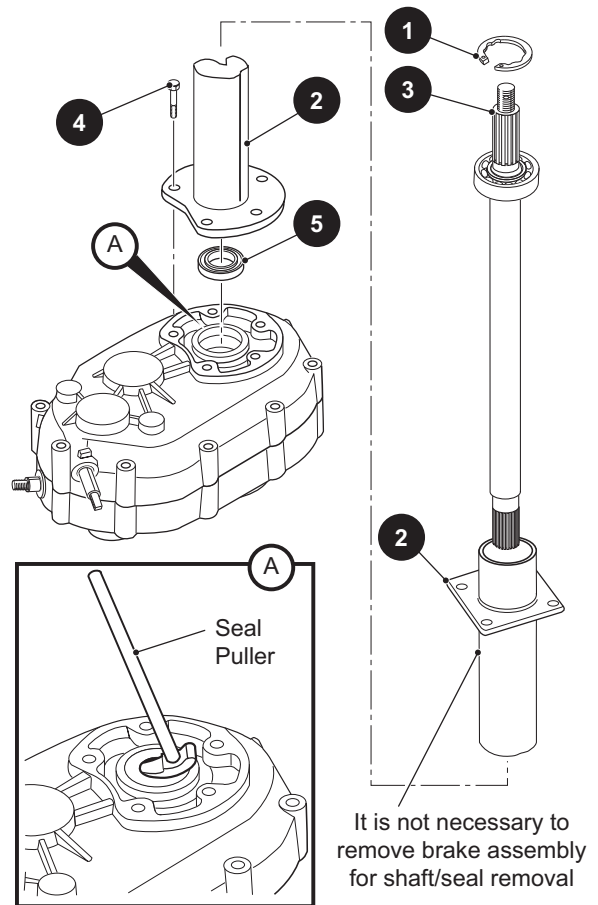

Fig. 6 Removing/Installing Seal
1. Use snap ring pliers to remove the bearing retaining ring (1) from the end of axle tube (2). (Ref. Fig. 6).
2. Carefully pull axle shaft (3) and bearing out of the tube.
3. Using a 14 mm socket, remove the hardware (4) attaching the axle tube to the casing and carefully lift the tube from the casing studs.
4. Using seal puller, remove axle shaft seal (5) from casing.